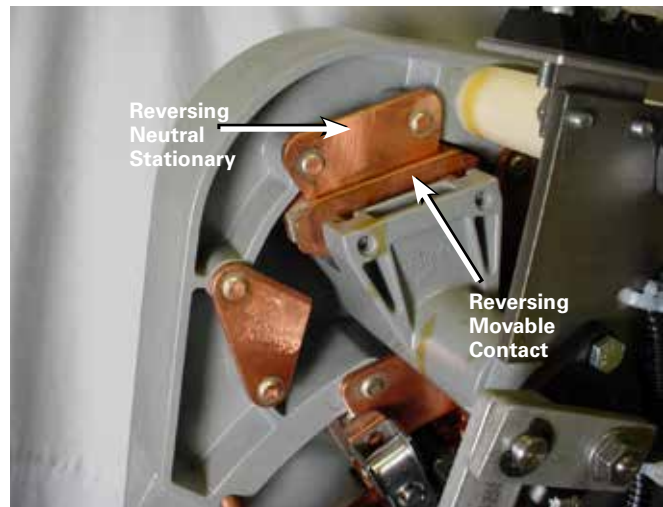

Figure 154. Neutral position for reversing movable.
- B. The reversing movable contact is located on the reversing neutral stationary contact. See Figure 154.